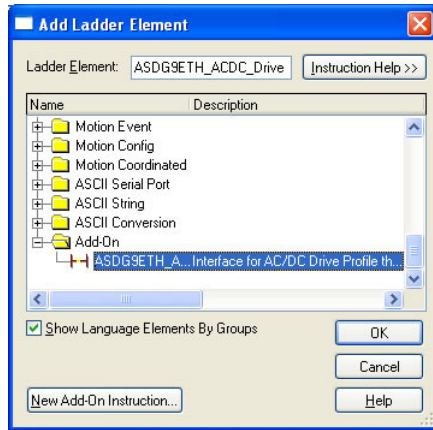

Figure 90: Add AC/DC Drive Profile AOI
- 8) Select the AC/DC drive profile AOI in the Add-On folder. Refer to Figure 90.